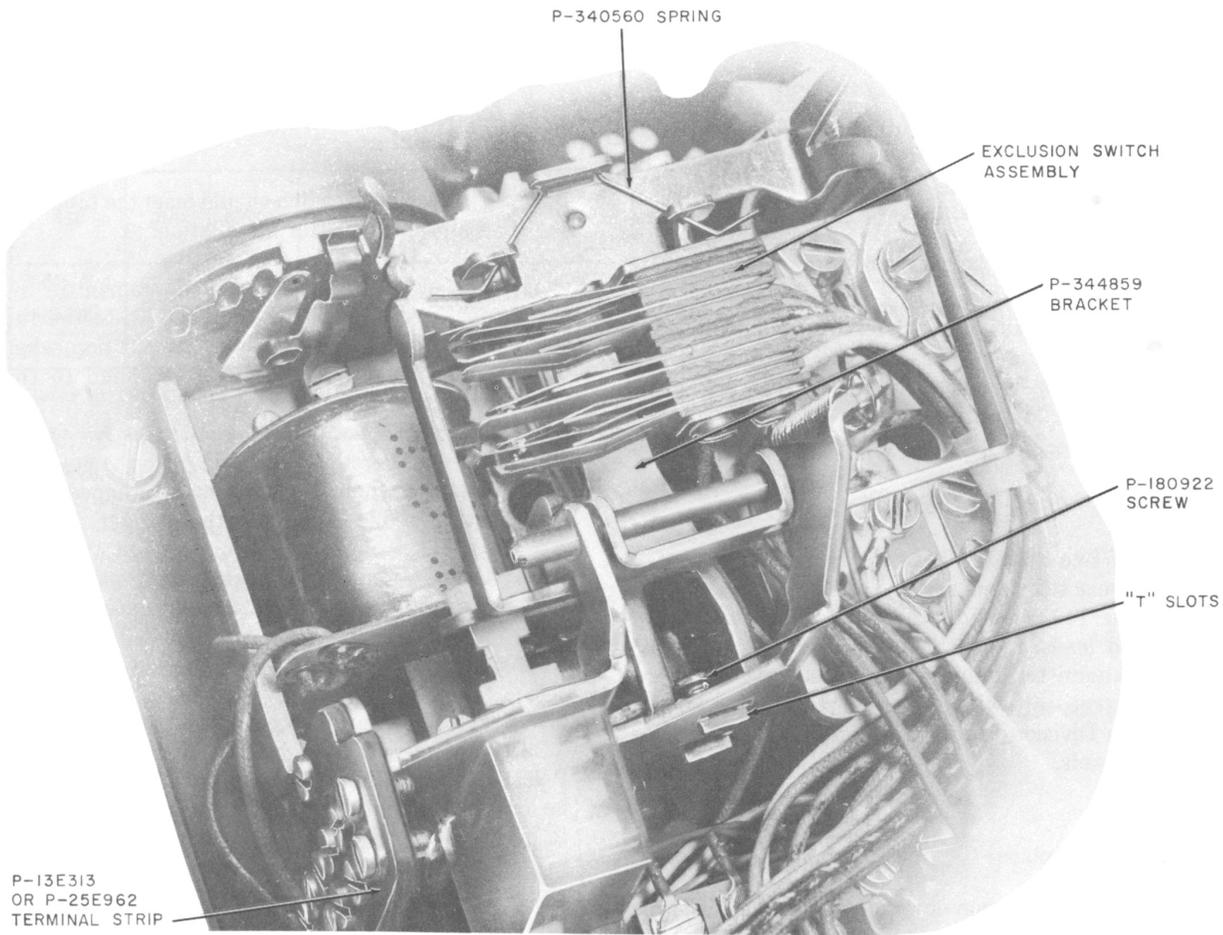

Fig. 2—D-179935 Kit of Parts, Installed
- (1) Remove housing. Remove hand hold cover and replace left hand line switch plunger (viewed from front of set) with P-14A613 plunger furnished in kit of parts. Replace hand hold cover.
- (2) Insert the P-344859 bracket into the T slots on the line switch bracket.
- (3) Tighten the P-180922 screw to hold the bracket to the T slots.
- (4) Mount the exclusion switch assembly to the bracket and secure in place with P-340560 spring (Fig. 2).
for connecting auxiliary equipment, if required. Refer to Ordering Guide. This terminal strip attaches to the line switch bracket (Fig. 2).